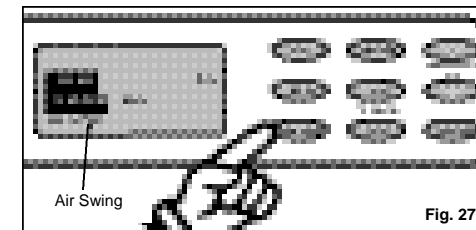

Fig. 27
- Press the **SWING** key to activate the automatic air swing (oscillating) feature (the air swing symbol will appear in the **LCD** window). *Fig. 27*. To deactivate the air swing feature, press the **SWING** key again.